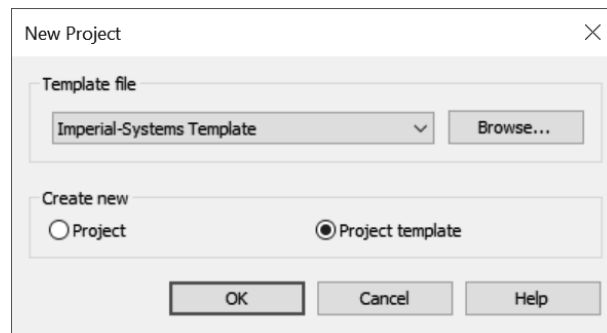

Figure 1–34
3. In the *Create new* area, select **Project template**, as shown in Figure 1–34, and click **OK**.